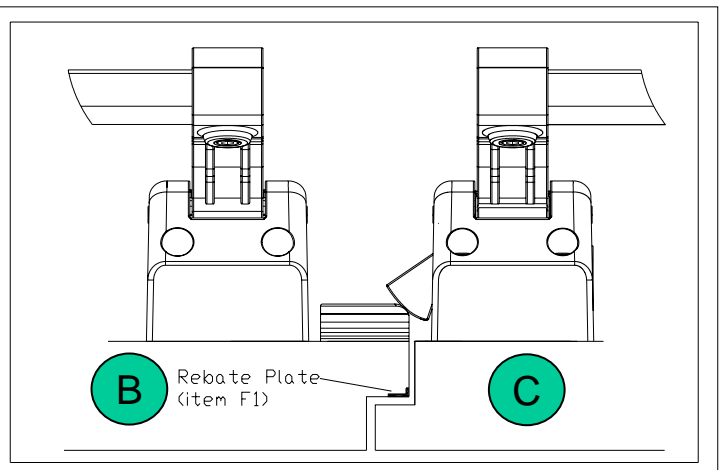

Fig 3.1
- 4.1) Referring to Fig 3.1, with the door closed, position the relevant striker. For double door striker, use packers as necessary to obtain a close fit between Latch and Striker. The door should not rattle nor need to be pushed to lock the latch.